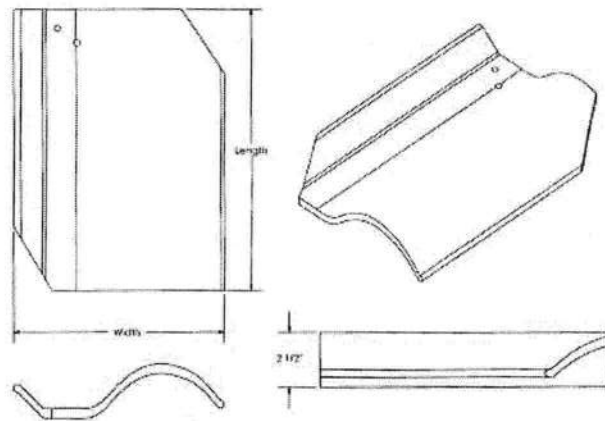

FIGURE 6—ONE-PIECE, HIGH-PROFILE BARREL TILE
**3.2.5 One-Piece, High Profile Barrel Tiles:** The One-Piece, High Profile Barrel Tiles are S-shaped and have two nail holes at the top of each tile. Table 1 shows dimensions and installed weights. See Figure 6 for additional details. The tiles are installed with a 3-inch (76 mm) headlap, on roofs with a minimum roof slope of 4:12 (33%).